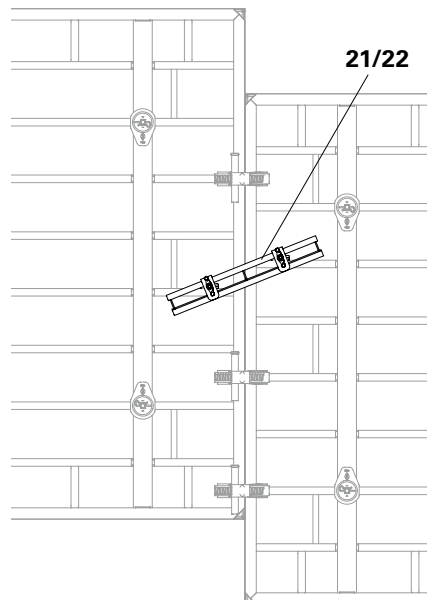

Fig. A4.06a
- Offset struts, see Fig. A4.06a.